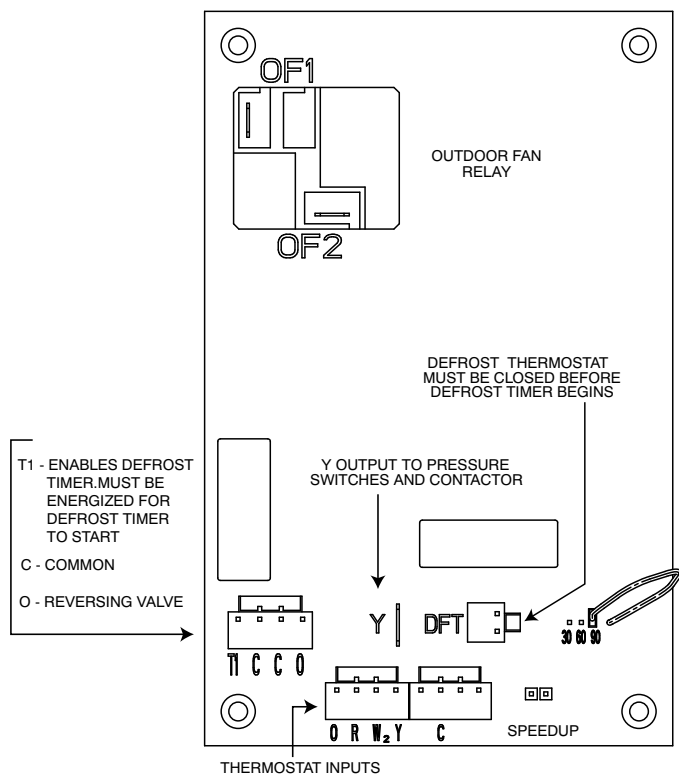

Fig. 12 – Non-Quiet Shift-2 Control Board for Units with PSC Motors
2. Disconnect outdoor fan motor lead from OF2 on control board for units using PSC motors and from ODF terminal on units with ECM motor (see Fig. 12). Tape lead to prevent grounding.